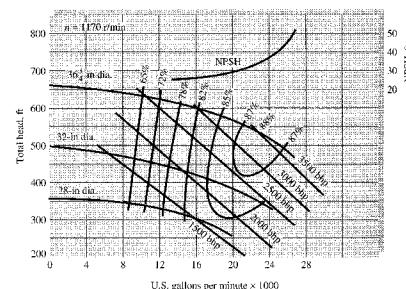

Fig. 11.7a
**11.43** The 28-in-diameter pump in Fig. 11.7a at 1170 r/min is used to pump water at 20°C through a piping system at 14,000 gal/min. (a) Determine the required brake horsepower. The average friction factor is 0.018. (b) If there is 65 ft of 12-in-diameter pipe upstream of the pump, how far below the surface should the pump inlet be placed to avoid cavitation?
**Solution:** For water at 20°F, take  $\rho g \approx 62.4 \text{ lbf/ft}^3$  and  $p_v \approx 49 \text{ psfa}$ . From Fig. 11.7a (above), at 28" and 14000 gpm, read  $H \approx 320 \text{ ft}$ ,  $\eta \approx 0.81$ , and  $P \approx 1400 \text{ bhp}$ . *Ans.*